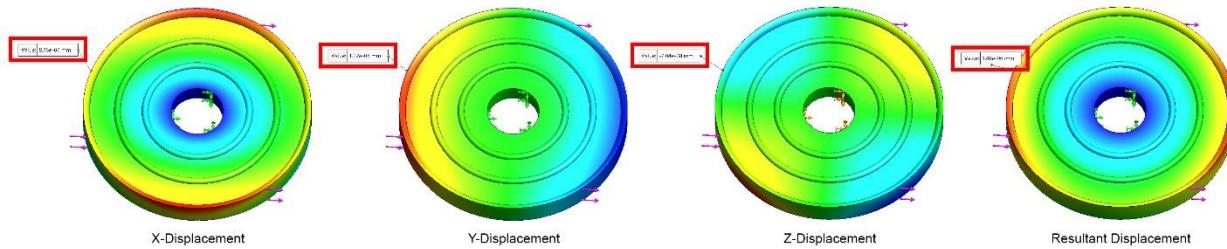

Fig 15: Displacement values at a specific location
- Displacement at a specific location in a specific direction is always smaller than the resultant displacement at that location (Fig 15).